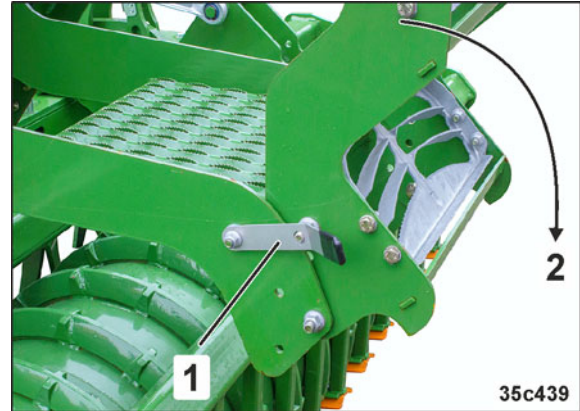

Fig. 139
2. Unlock the ascent (Fig. 139/1) and swivel it down (Fig. 139/2). Use the step of the ladder as handle.